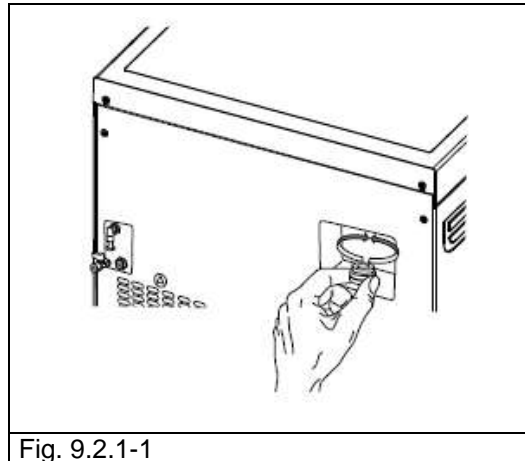

Fig. 9.2.1-1
2. Turn the plug (Fig. 9.2.1-1) located on the upper part of the valve anti-clockwise until it reaches the end of the thread and turns loose.